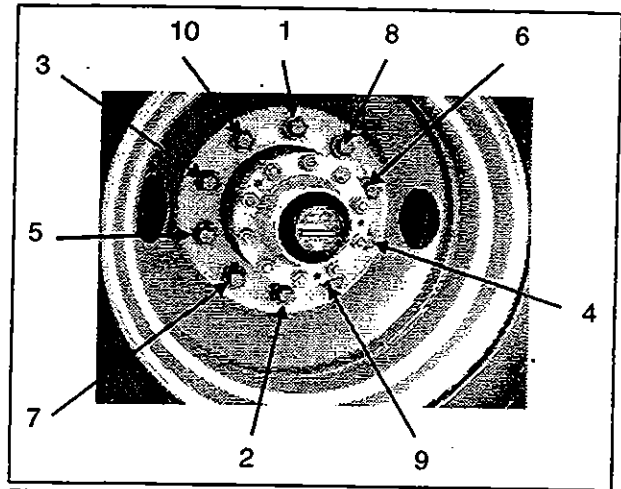
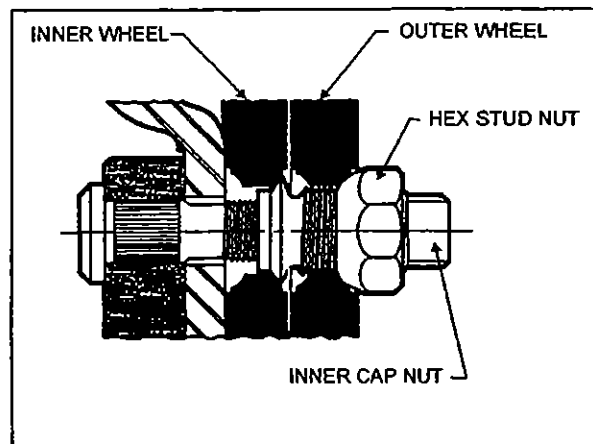

Figure 1: Tightening Sequence
Figure 2: Dual Wheel Installation
It is also important that wheel stud nuts be tightened alternately on opposite sides of the wheel. Refer to Figure 1 for the suggested tightening sequence.
1. Screw in the hex stud nuts (refer to Figure 1 for sequence) so that wheel will position itself concentrically with hub. This is important, otherwise wheel may be eccentric with hub and will not run straight. In this initial step, slightly tighten the nuts to correctly position the wheel.
2. Tighten stud nuts progressively as shown in Figure 1. The final tightening should be done with a torque wrench. Tighten stud nuts to 450 - 500 lbf•ft (610 - 680 N•m) for aluminum as well as steel wheel.
1. Screw in the inner cap nuts (shown in Fig. 2) and refer to Figure 1 for sequence, so that wheel will position itself concentrically with hub.
2. Tighten inner cap nuts progressively according to sequence shown in Figure 1. The final tightening should be done with a torque wrench. Tighten inner cap nuts to 450 - 500 lbf•ft (610 - 680 N•m) for aluminum as well as steel wheel.
Tighten the hex head nuts (shown in Fig. 2) using the single wheel installation procedure described previously.
1. Loosen a hex head nut three turns (Fig. 2).
4. Repeat the 3 previous steps for each of the 10 "hex head nut - inner cap nut assemblies" according to the tightening sequence in Figure 1.